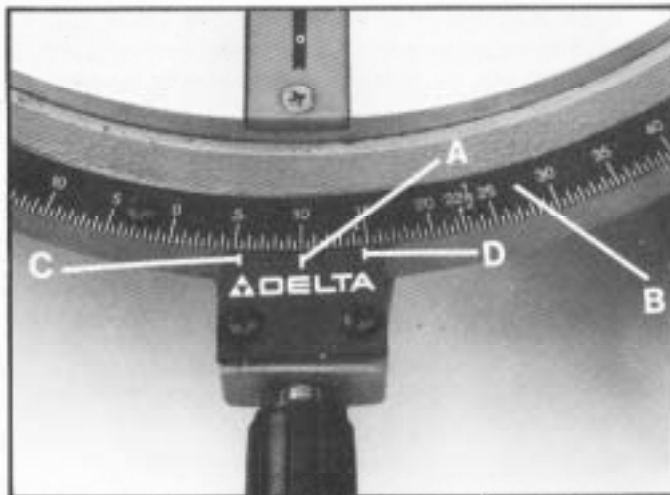

Fig. 16
The center line (A) Fig. 16, on the pointer indicates the actual angle of cut. Each line on the scale (B) represents 1/2 degree. In effect, when the center line (A) is moved from one line to the next on the scale the angle of cut is changed by 1/2 degree.
The pointer is provided with two additional lines (C) and (D) Fig. 16. This allows you to move the control arm 1/4 degree. For example, assume the center line (A) is pointing to the 10 degree mark on the scale, as shown, and you want to change the angle of cut 1/4 degree to the right. Move the control arm until the right line (D) lines up with the next line on the scale. The angle of cut will then be changed 1/4 degree to the right. If you were changing the angle of cut 1/4 degree to the left, use the left line (C) in the same manner.